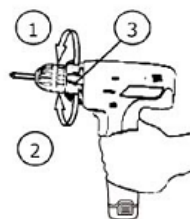

Fig. 6
The cordless driver drill is equipped with the torque control (see Fig.6). It allows to change the force of tightening of the screws, and etc. To set the tool's torque, rotate the adjustable torque collar(3) as required.